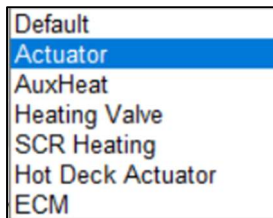
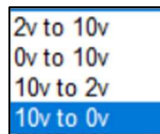

Figure 19
Figure 20
- A. **Analog Output Configuration:** Control assignment (figure 19) and voltage type (figure 20) for each of the 4 analog outputs. If not required, use **Default, 2v to 10v**.